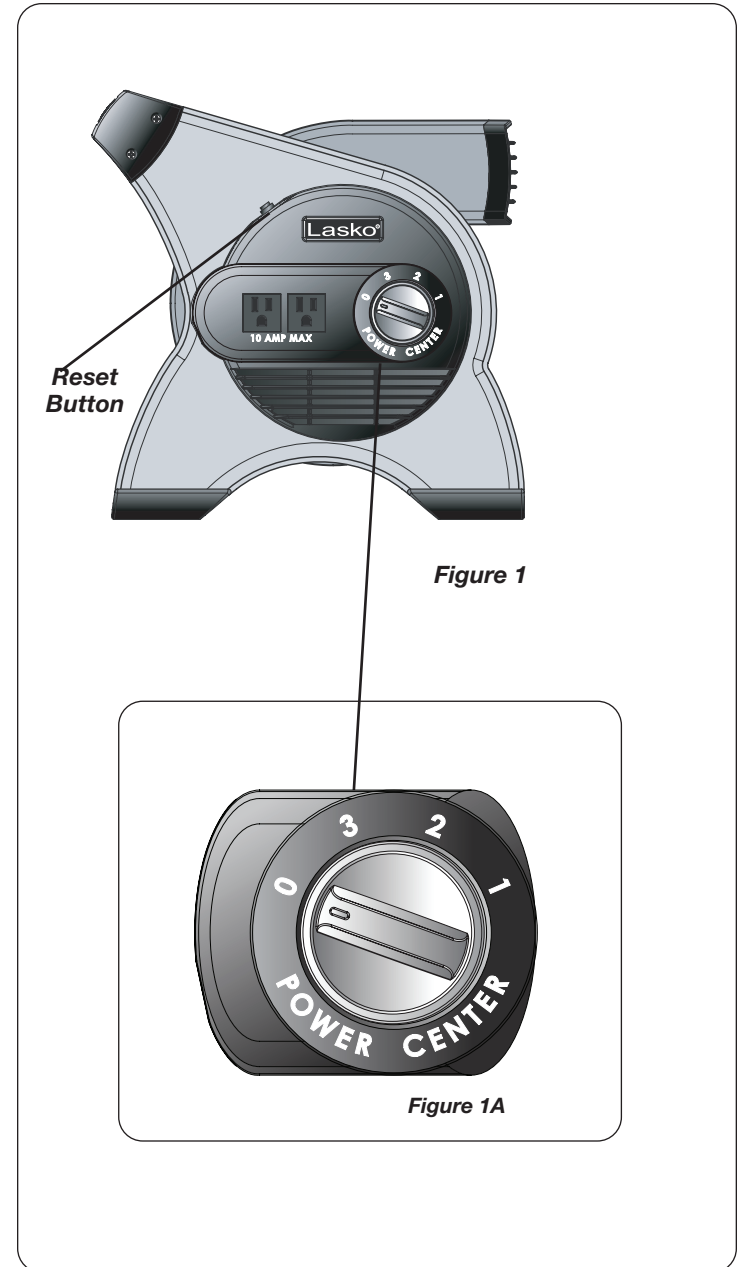

Figure 1
### OPERATION (Figure 1)
5. To adjust the vertical angle, push the Fan body forward or backward to the desired position. It is normal to hear a clicking sound while performing this function. (Figure 1)